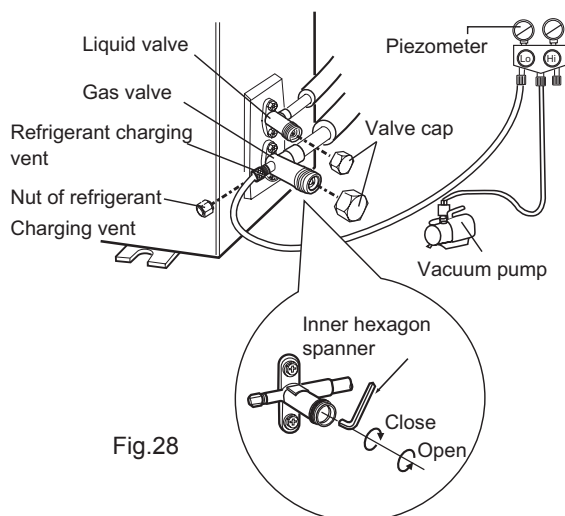

Fig.28
- (1) Remove the valve caps on the liquid valve and gas valve and the nut of refrigerant charging vent.
- (2) Connect the charging hose of piezometer to the refrigerant charging vent of gas valve and then connect the other charging hose to the vacuum pump.
- (3) Open the piezometer completely and operate for 10-15min to check if the pressure of piezometer remains in -0.1MPa .
- (4) Close the vacuum pump and maintain this status for 1-2min to check if the pressure of piezometer remains in -0.1MPa . If the pressure decreases, there may be leakage.
- (5) Remove the piezometer, open the valve core of liquid valve and gas valve completely with inner hexagon spanner.
- (6) Tighten the screw caps of valves and refrigerant charging vent.(As show in Fig.28)